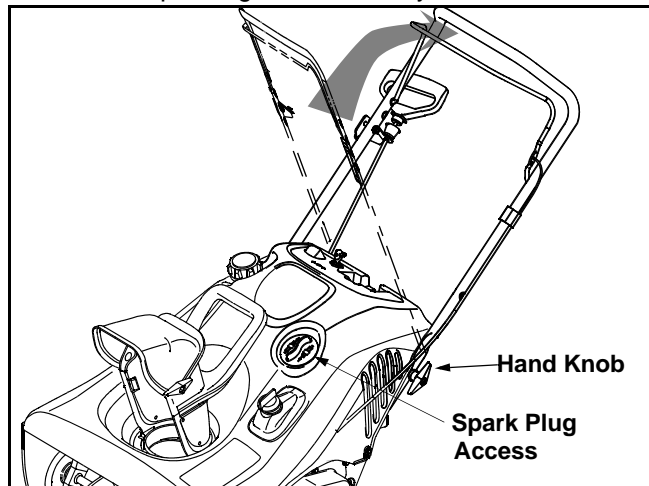

Figure 1
WARNING: Disconnect the spark plug wire and ground it against the engine to prevent unintended starting. See Figure 1.
- Raise the upper handle in the direction shown in Figure 1 until it clicks into the operating position. Make sure not to pinch or crimp the cable.